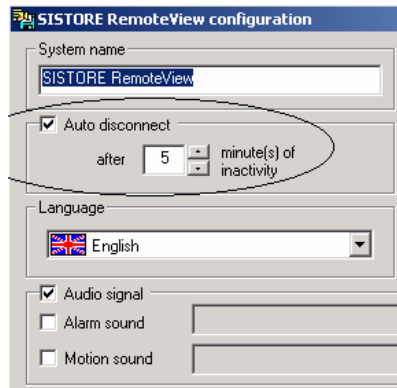

Fig 25 Auto-disconnect option in the SISTORE MX RemoteView configuration
- On each client station with video functions, disable the Auto-disconnect option in the SISTORE MX RemoteView configuration (see Fig 25 below). Default setting is auto-disconnect time enabled after 5 min. and causes the live video in MM8000 to freeze when the time expires.